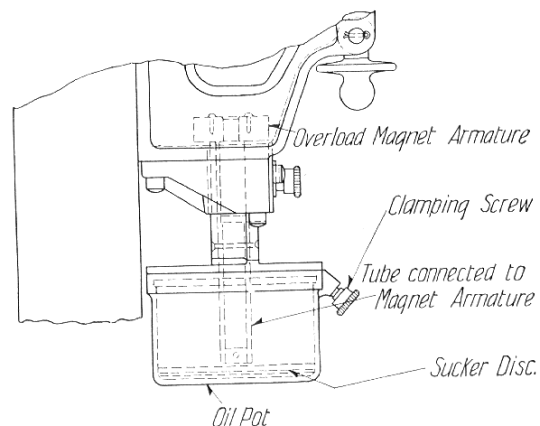

FIG. 10—INVERSE-TIME-LIMIT OVERLOAD ATTACHMENT
**Inverse-Time-Limit Attachment (Figure 10)**—The inverse-time-limit attachment will not trip breaker on short time overloads. This attachment is calibrated without oil in pot. With current flowing through breaker same as calibration setting the inverse-time-limit attachment with oil in pot will not trip breaker.